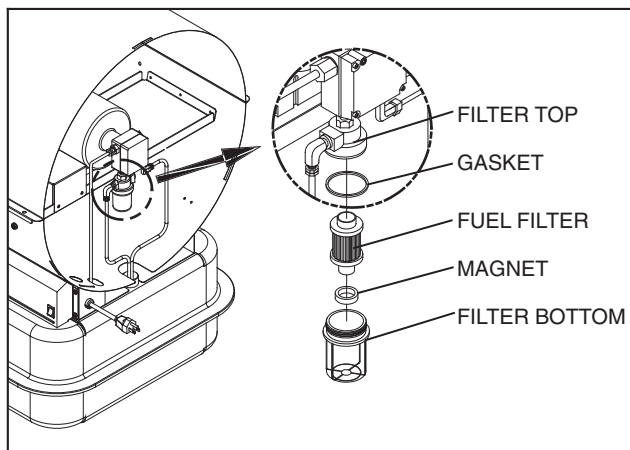

Figure 14. Fuel Pump Filter
- Remove fuel filter, gasket, magnet from filter bottom.(See Figure 14)